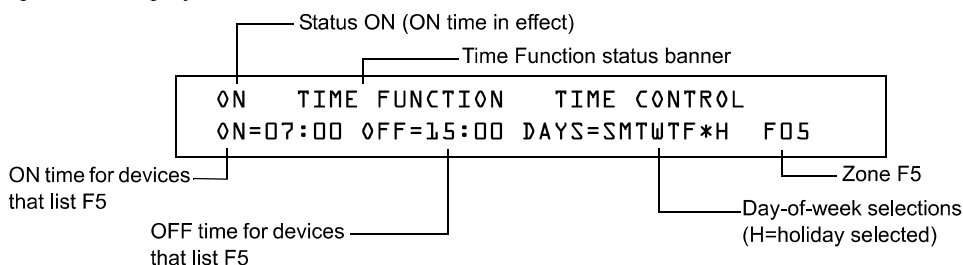

Figure 46 Sample Read Status for Time Function
Time Control is active for all days of the week listed in F5 or F6. Holidays listed in F7 are excluded unless you list Holidays (H) in the day-of-week selection of F5 and F6 (shown in Figure 46). Enter the time functions in a 24-hour format with the OFF time later than the ON time. After changing programming using Time Control, always reset the control panel.